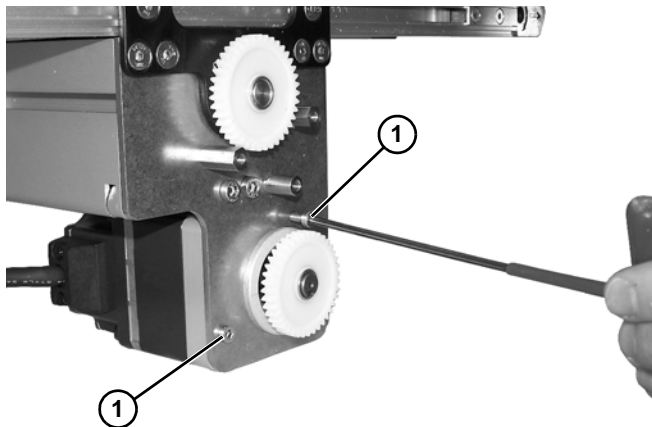

Figure 18
14. Install new gearmotor assembly and tighten two screws (Figure 18, item 1) 15 in-lb (1.7 Nm).